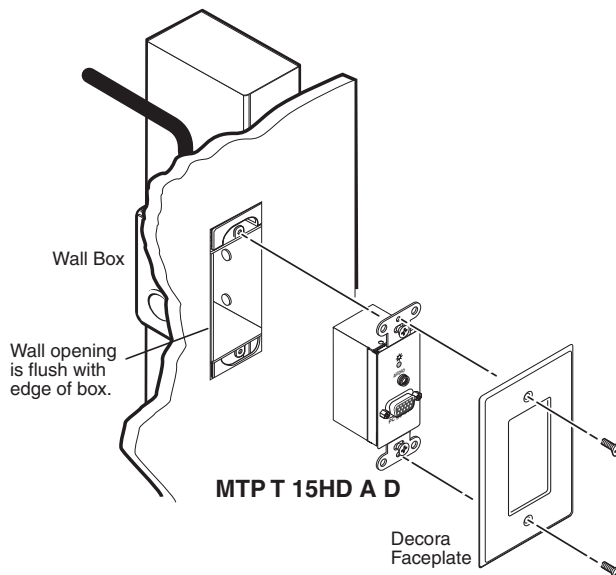

Figure 7. Mounting the MTP T 15HD A D
- If installing an MTP T 15HD A D, mount it directly to the wall box, then attach the Decora wall plate, as shown in figure 7, and restore the power supply.